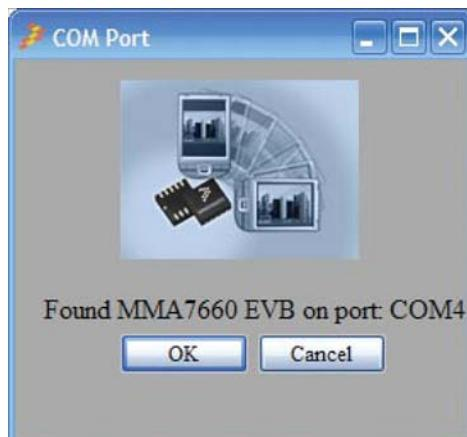

Figure 7. Com Port Selection Screen
- Select Start > Programs > RD3803MMA7660FC Evaluation Kit or select the icon from the Desktop screen. The COM port selection screen will appear. The application performs an Auto – COM port algorithm which finds the port being used by RD3803MMA7660FC, by handshaking with each available port and selecting the one that answers with the correct handshake command (Figure 7). Select “OK”.